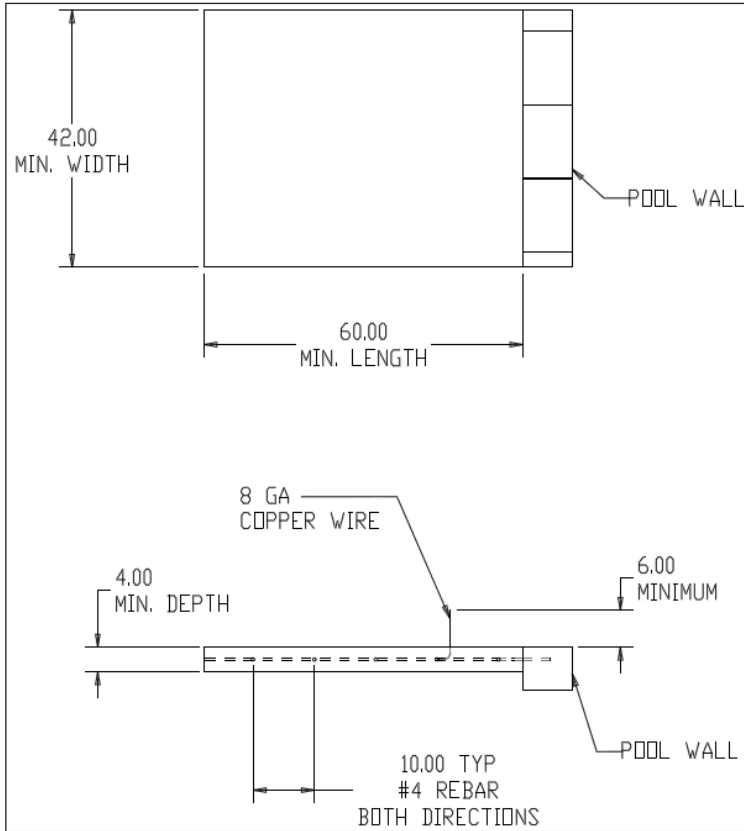

Fig 2: Minimum Deck Requirements
- 2 Verify that the pool deck meets the minimum requirements above, also see Fig.2. If the deck does not meet these requirements, then the deck needs to be cut and replaced with a new slab that meet these requirements. The new slab needs to be reinforced with rebar and adhered with epoxy into the remaining existing deck. Simpson SET epoxy is recommended or equivalent for installation.
- 3 Due to Local Electrical Code, it maybe necessary to Bond the Mounting Base to the pools Bonding Grid with 8ga Copper Wire. See Fig. 2 & 3 for location. Check your Local Electrical Code for proper Bonding.